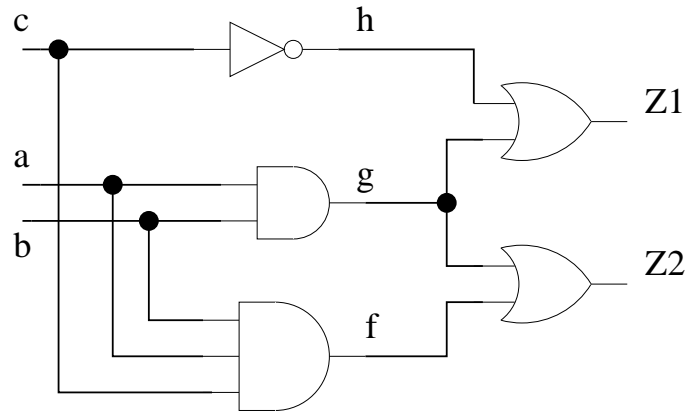

Fig. 1. Simplification of a multi-level, multi-output Boolean network using ODCs
3) **(10 points):** Consider the multi-output circuit shown in Fig. 1.